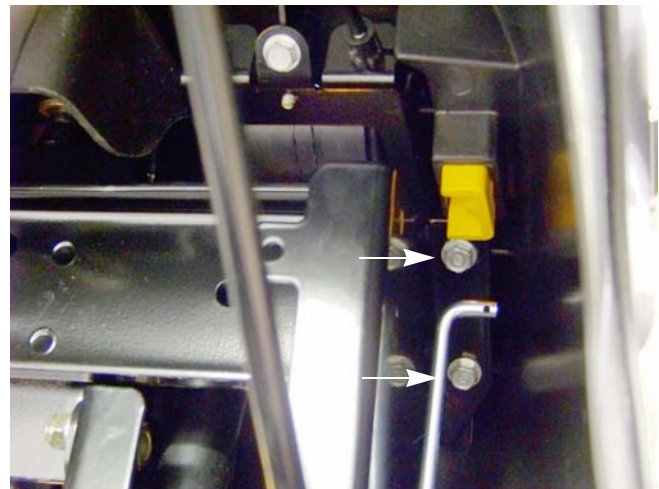

Figure 4.30
9. Remove the two screws, indicated by the arrows in Figure 4.30, that hold the left side of the dash to the dash support bracket using a 3/8" wrench.